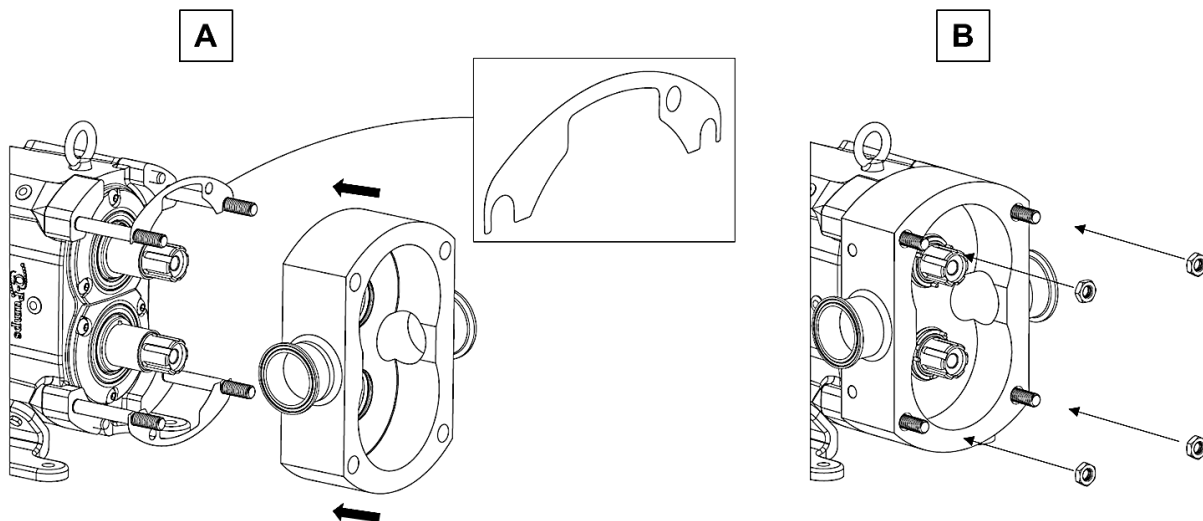

Figure 61: Installing Shims and Pump Body
1) Make sure all seal components are installed by following the “Seal Assembly” instructions on page 17. Ensure all dowels are in place and that all parts including body, rotors, and rotor nuts are clean and free of foreign matter. Install the correct shims on the gear case, using grease to hold them in place, if needed. Slowly slide the body over the gear case studs and shafts, ensuring the seals are kept in place and not damaged (Figure 61, A). Install the four hold down nuts and tighten the body against the gear case to ensure the dowels are engaged (Figure 61, B). Rotate the shafts to make sure there is no interference with the seals. Ensure that the shims have not fallen out.